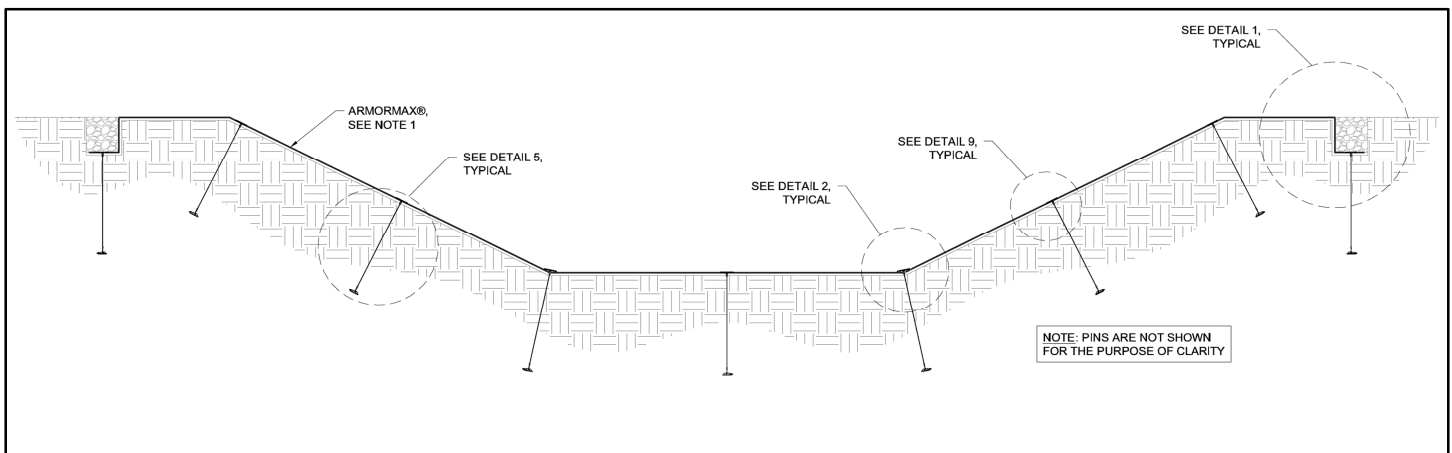

Figure 20: Completed Channel Elevation View
2. For straight sections of a channel, ARMORMAX panel lengths should be long enough to construct both COS trenches while also covering the surface of the channel being armored. (Figure 20) Panel edges should rest perpendicular to the channel center line. For best results, panels of ARMORMAX should be continuous and free from seams or roll end overlaps that are parallel to the centerline of the channel. Panel edge overlapping should follow a pattern of placing each proceeding panel's edge overlap the previous panel edge, shingling the panels in the direction of the water flow.
14. Continue to work down the length of the channel by repeating steps 6 through 9 overlapping each adjacent ARMORMAX panel by 3 inches (75 mm) (Figure 20). The last ARMORMAX panel should terminate on the Terminal Channel (TC) trench with pins on 12 in (300 mm) centers in between anchors on 5 ft (1.5 m) centers.
19. At a minimum, ARMORMAX panels should be pinned entirely across the channel surface, pins and earth s should be installed in the trenches, and the trenches should be backfilled and compacted at the end of each day to minimize rework in the case of a major rain event. Specific project conditions may warrant further evaluation of installation order for ease. An example elevation view (Figure 20) of a channel armored with ARMORMAX can be seen below for overall reference. Consult Propex Engineering Services at (423) 553-2450 with any questions that you may have.